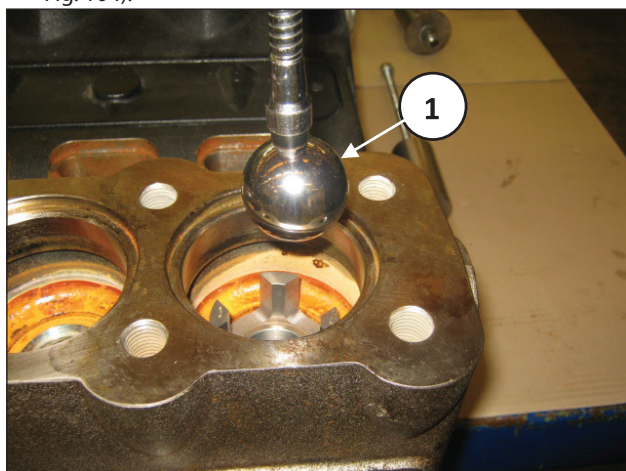

Fig. 104
- D) Remove the balls using a magnet or other tool (pos. ①, Fig. 104).